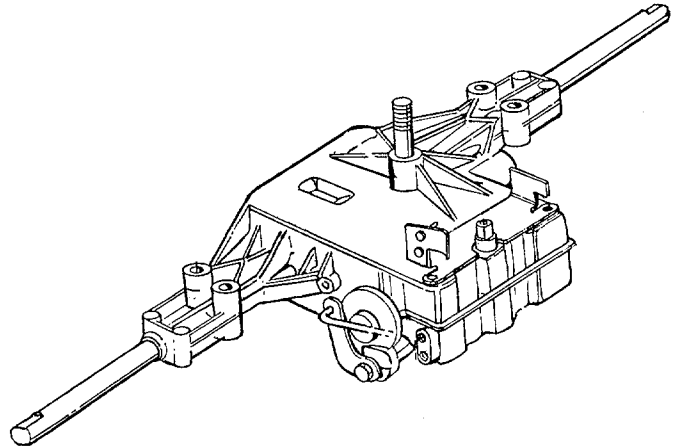

FIGURE 19.
**Transaxle**—The transaxle is lubricated and sealed at the factory. It is not necessary to check the lubrication level unless the transaxle is disassembled for repair. The transaxle is lubricated with 24 ounces of E.P. Lithium grease. (See figure 19.)